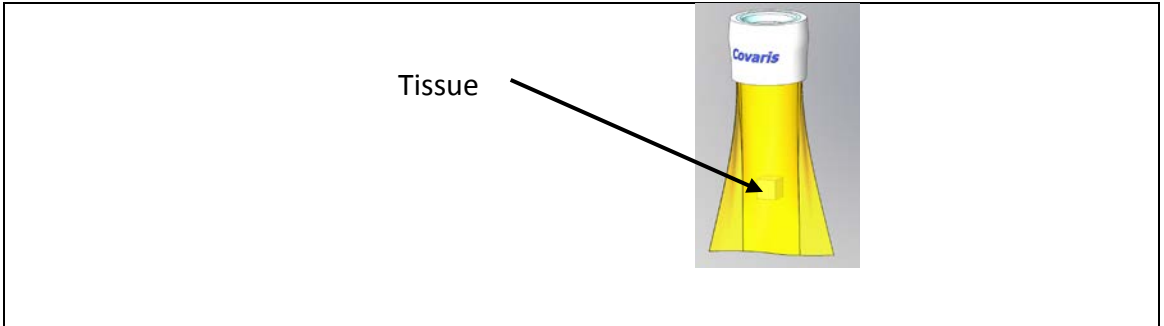

Figure 2 - tissueTUBE with frozen tissue
1. **Load Sample into the tissueTUBE** –Using gloved hands, pinch the bottom 1/3rd of the tissueTUBE, and insert the sample through the top opening of the tissueTUBE as illustrated in Figure 2, using forceps or tweezers. Place the sample 1/3 of the way up the bottom of the tissueTUBE in the center away from the edges.